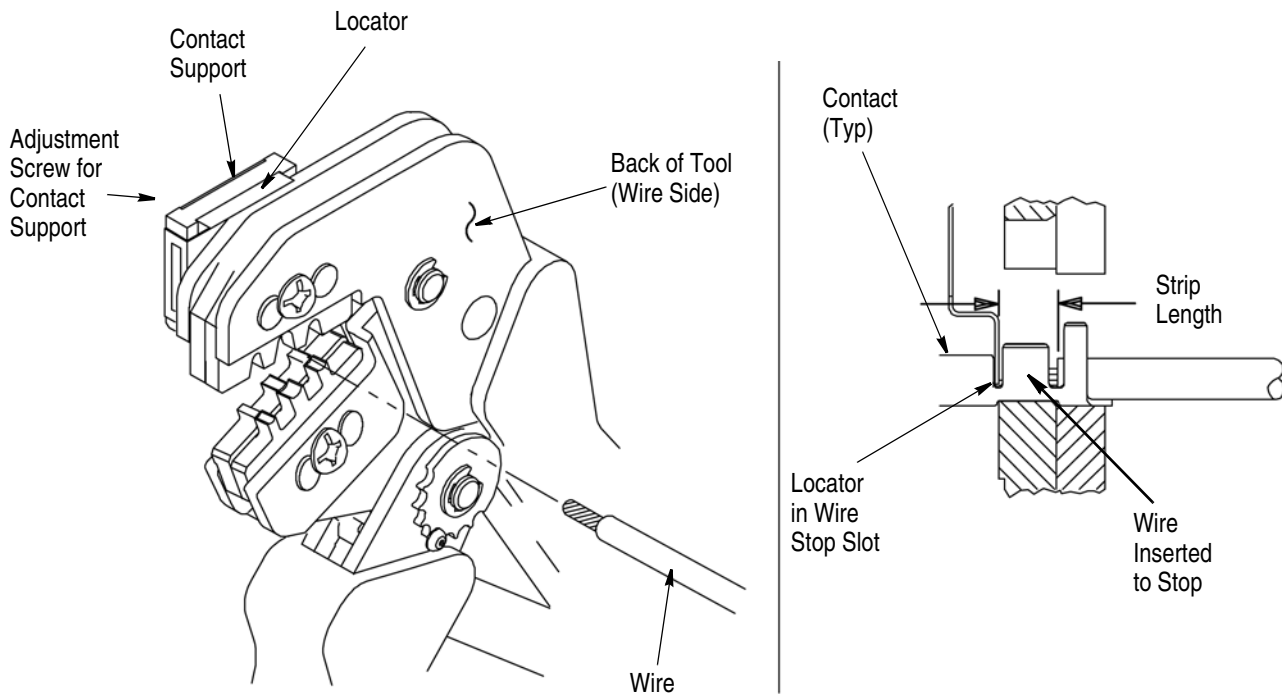

Figure 3
### 4. CONTACT SUPPORT ADJUSTMENT (Figure 3)
the length indicated in Figure 1, taking care not to nick or cut wire strands. Select an applicable contact and identify the appropriate crimp section according to the wire size markings on the tool. Refer to Figure 3 and proceed as follows:
3. Position the contact so that the mating end of the contact is on the locator side of the tool, and so that the open "U" of the wire and insulation barrels must face the top of the tool. Place the contact up into the nest so that the movable locator drops into the slot in the contact. Refer to Figure 3. Butt the front end of the wire barrel against the movable locator.
5. Insert stripped wire into contact insulation and wire barrels until it is butted against the wire stop, as shown in Figure 3.
The crimped contact may stick in the crimping area, but the contact can be easily removed by pushing downward on the top of the locator (see Figure 3).